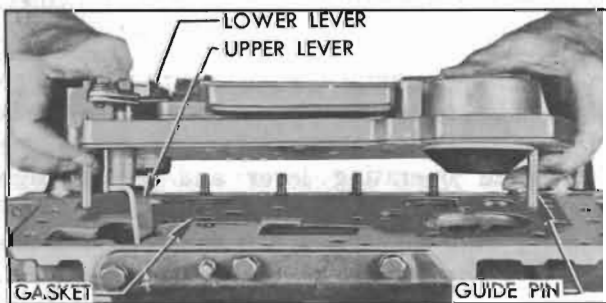

Figure 5-98—Installing Valve and Servo Body Assembly
3. Push shift control valve and lower operating lever inward to align the upper lever with opening in case and install the valve and servo body on transmission case. See figure 5-98. Engage pin in control valve with slot in operating lever.